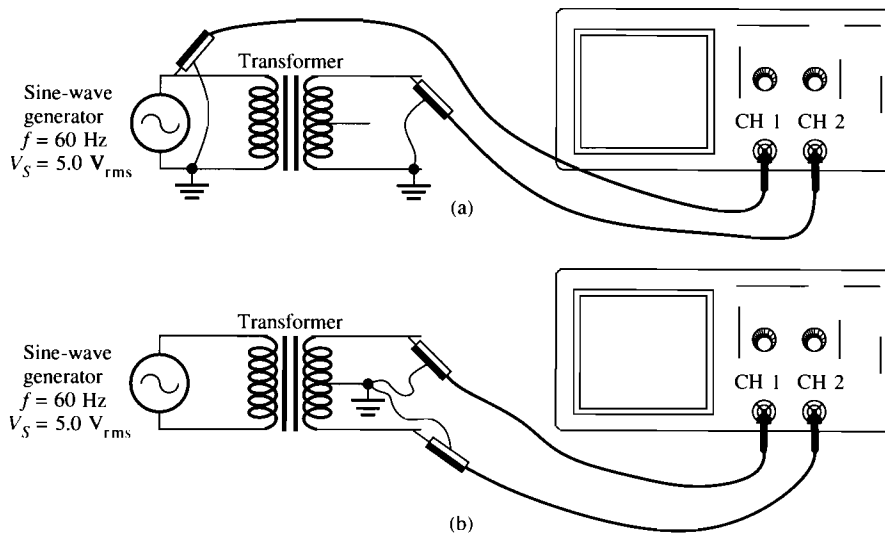

Figure 22-2
- Connect a two-channel oscilloscope to the secondary, as illustrated in Figure 22-2(a). Trigger the oscilloscope from channel 1. Do not use compromise triggering. Compare the phase of the primary side viewed on channel 1 with the phase of the secondary side viewed on channel 2. Then reverse the leads on the secondary side. Describe your observations.
- Connect the oscilloscope ground to the center tap of the transformer and view the signals on each side at the center tap at the same time as illustrated in Figure 22-2(b). Sketch the waveforms beside the figures showing measured voltages.